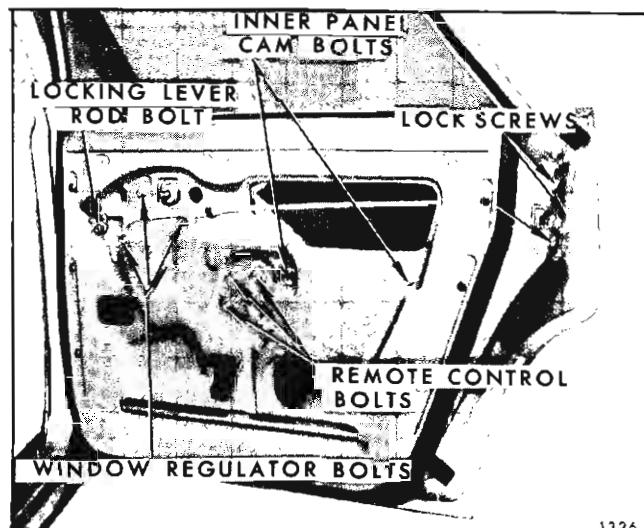

Fig. 2D40—Rear Door Hardware
- Remove inside locking rod assembly attaching bolt and washer and detach connecting rod from clip on inner panel (See Fig. 2D40).